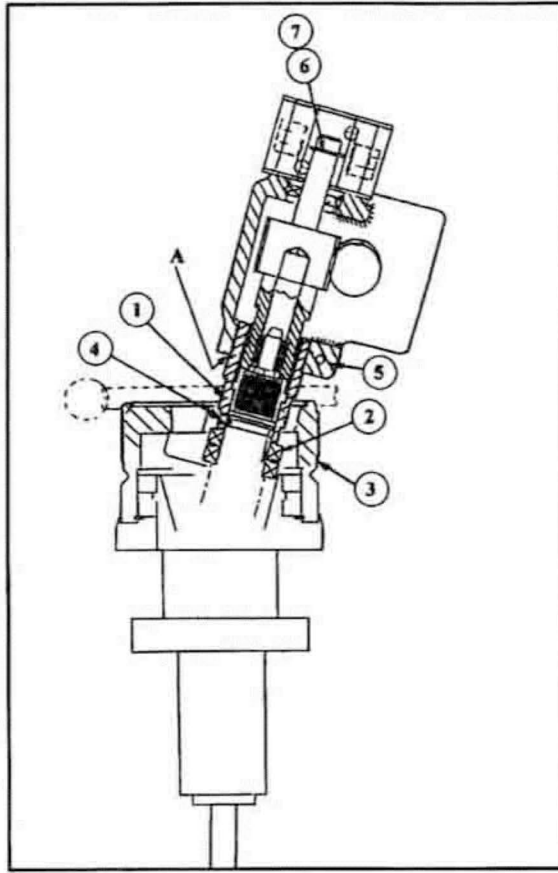

Figure 4 - Sectioned view of RD2 drive with secondary (linear) Axis motorisation kit, RDSMK, fitted
- c. If the secondary motion motor kit (RDSMK) is already fitted to the rotary drive, this must be partly removed so that only the mounting barrel (item 1, figure 4) remains.
Numbers in () in the following text refer to item numbers in figure 4.
Numbers in parenthesis () refer to item numbers in figure 4.